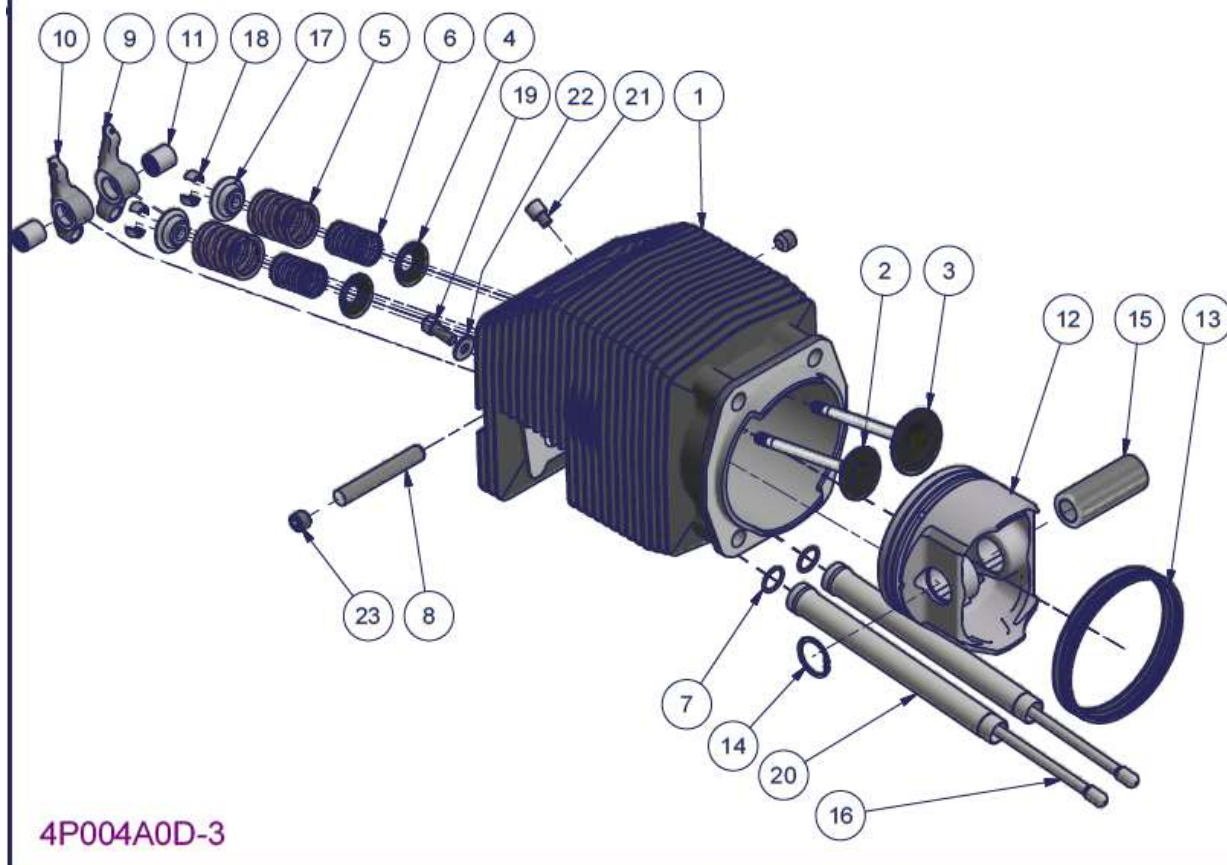

Figure 48 - 2200/3300 Cylinder subassembly - Parts list
- At the time of this writing the most **current cylinder head design** features the following (see Figure 48 for the parts list).